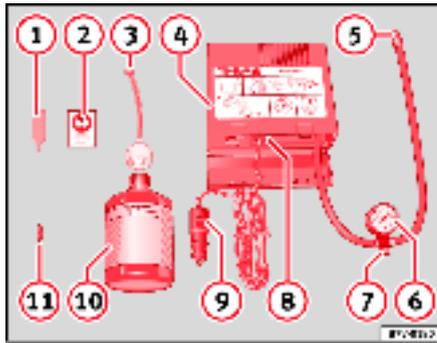

Fig. 153 Contents of anti-puncture kit
- Remove the anti/puncture sticker ⇒ fig. 153 ② and apply it to the instrument panel where it can be seen clearly.
- Use the enclosed extractor ⇒ page 234, fig. 153 ① to unscrew the valve insert. Place the valve insert on a clean surface.
- Vigorously shake the sealant bottle ⇒ page 234, fig. 153 ⑩ for several seconds. ■